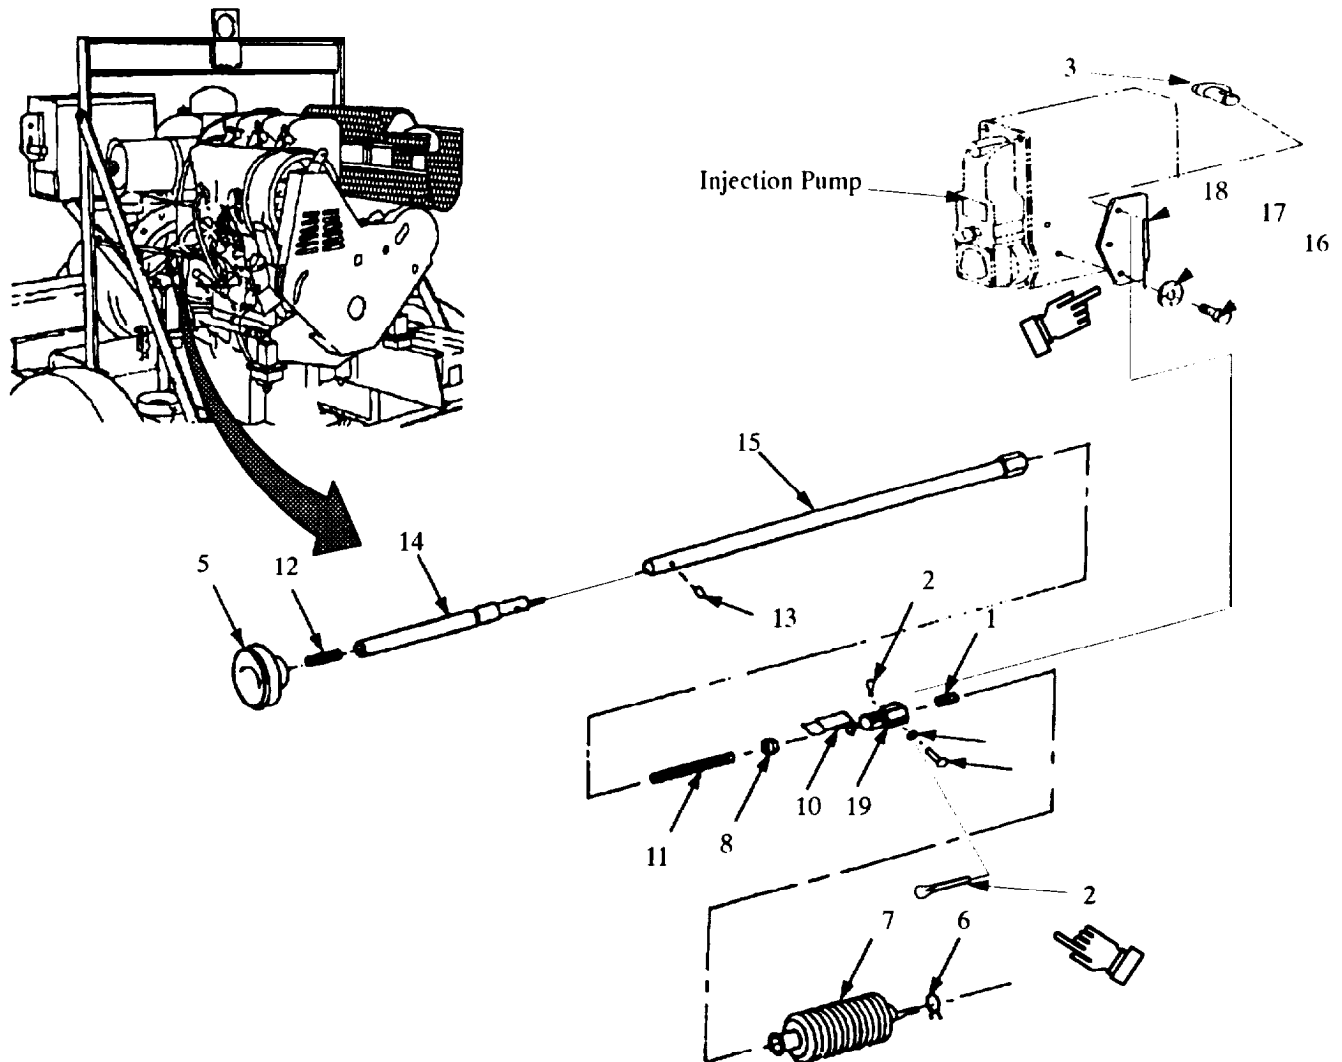

Figure 4-35. Throttle Control Assembly Maintenance(All Models).
4.11.1 **Removal.** Refer to Figure 4-35 and proceed as follows:
- a. Remove set screw (1), cotter pin (2), pin (3), and spacer (4). Cotter pin (2) and pin (3) installed through throttle extension (18) on Model 350 PAWN.
- b. Remove knob (5) and throttle control assembly.
4.11.2 **Disassembly.** Refer to Figure 4-35 and proceed as follows:
- a. Squeeze ends of clamp (6) and remove bellows (7).
- b. Loosen lock nut (8) and remove coupling nut (9), retaining spring (10), lock nut (8), and clamp (6).
- c. Remove threaded rod (11), threaded rod (12), set screw (13), rod (14), and extension rod (15).
- d. Remove bolts(16), lockwashers(17) and throttler extension(18) from injection pump(Model 350 PAWN only).
4.11.3 **Repair.** Refer to Figure 4-35 and proceed as follows:
4.11.4 **Assembly.** Refer to Figure 4-35 and proceed as follows:
- a. Position rod (14) on extension rod (15) and secure with set screw (13).
- b. Install threaded rod (12) on knob (5).
- c. Install threaded rod (11) on hex end of extension rod approximately one third of the way.
- d. Install lock nut (8), retaining spring (10), clamp (6), coupling nut (9), and bellows (7).
- e. Squeeze end of clamp (6) and install on bellows (7).
4.11.5 **Installation.** Refer to Figure 4-35 and proceed as follows:
- a. Feed throttle control assembly through throttle bracket and install knob (5).
- b. Install spacer (4) and pin (3) through coupling nut and control arm and install cotter pin (2) through pin (3). Cotter pin (2) and pin (3) are installed through throttle extension (18) on Model 350 PAWN.
- c. Install set screw (1).